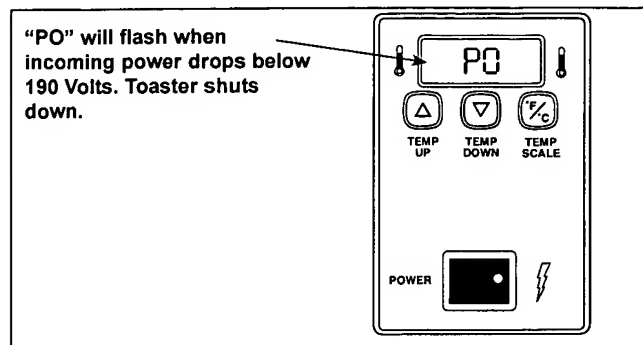

Figure 11. "PO" Fault Message
- If incoming power drops below 190 Volts, the toaster will shut down and the display will read "PO" (Figure 11). To reset, power supply must be over 190 Volts, then the unit must be turned off and back on.